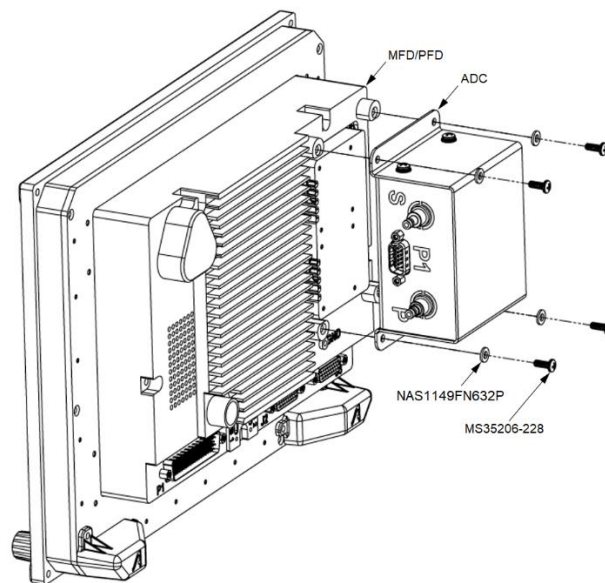

Figure 4-17: ADC Installation on Vantage Display
1. For both standard and fully redundant installations, as illustrated in Figure 4-17, using 4X 150-00595-000 (MS35206-228) screws and 4X 150-00596-000 (NAS1149FN632P) washers, fasten the ADC900 to the back of the Vantage12 displays.